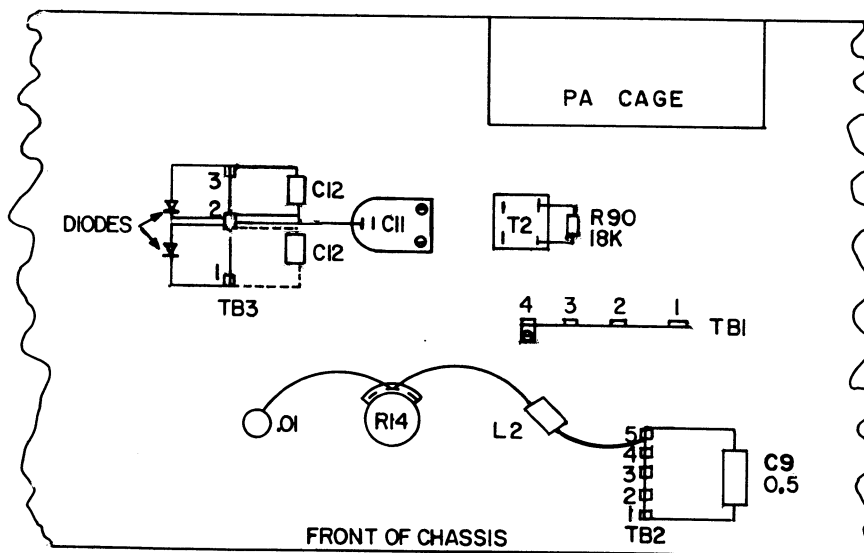

Figure 1. Simplified Layout of Underside of Chassis - Before Modification
two diodes are utilized as indicated in figures 1 and 4, it is recommended that this modification be incorporated.
3. Turn chassis over, and facing front panel, locate L2, T2, C9, C11, R14, and TB1 on underside of chassis. Refer to figure 1.
5. Remove L2, a 2-mh choke, connected from center terminal of potentiometer R14 to terminal strip TB2-5. Refer to figure 1.